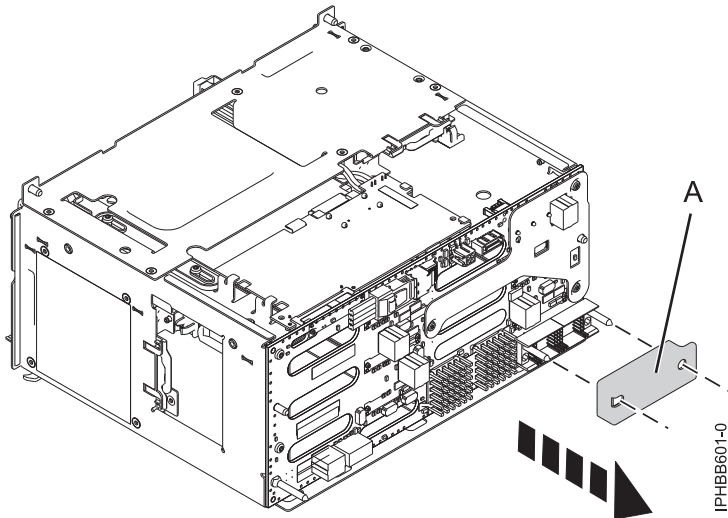

Figure 22. Picture of removing the protective cover from the connector pins
3. Check for a protective cover that might be present on the lower right connector pins. If a protective cover is present, remove the cover (A), as shown in Figure 22 on page 24.